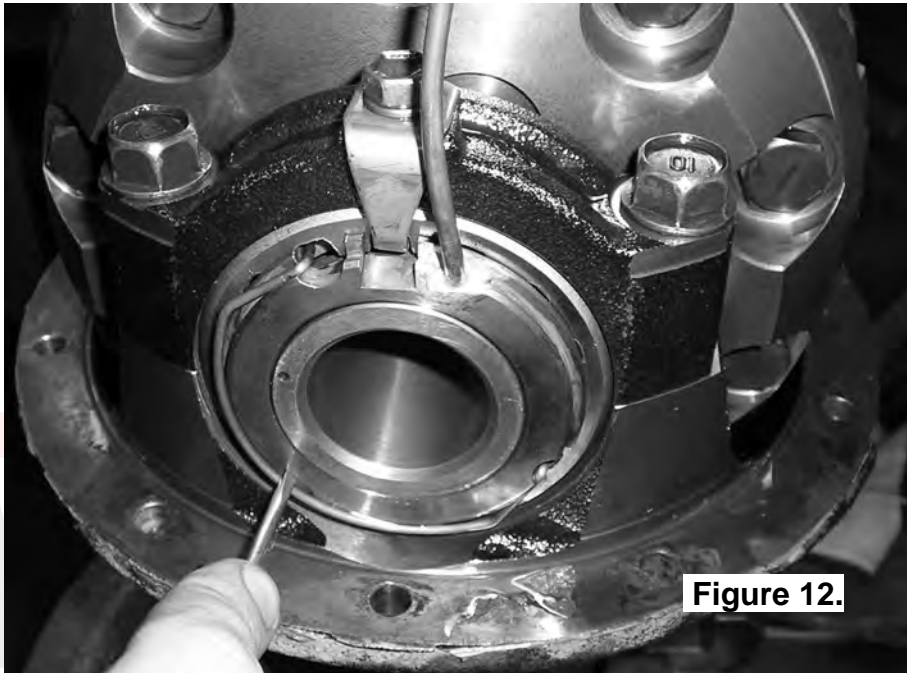

Figure 12.
- Install the spring clip by first hooking both ends of the clip into the small aligned cutouts of the seal housing and the adjuster nut, and then snapping the clip into the groove of the seal housing using a screwdriver. (Fig.12.)